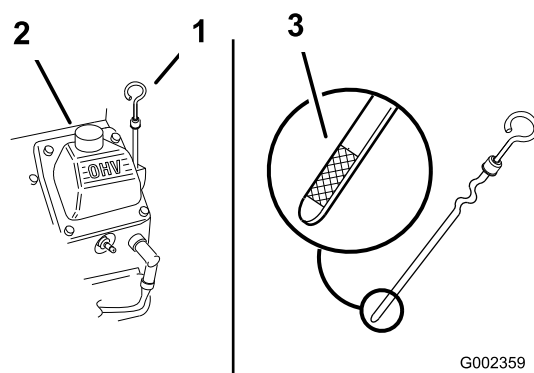

Figure 163
1. Clean the area around the oil-fill cap and dipstick (Figure 163).